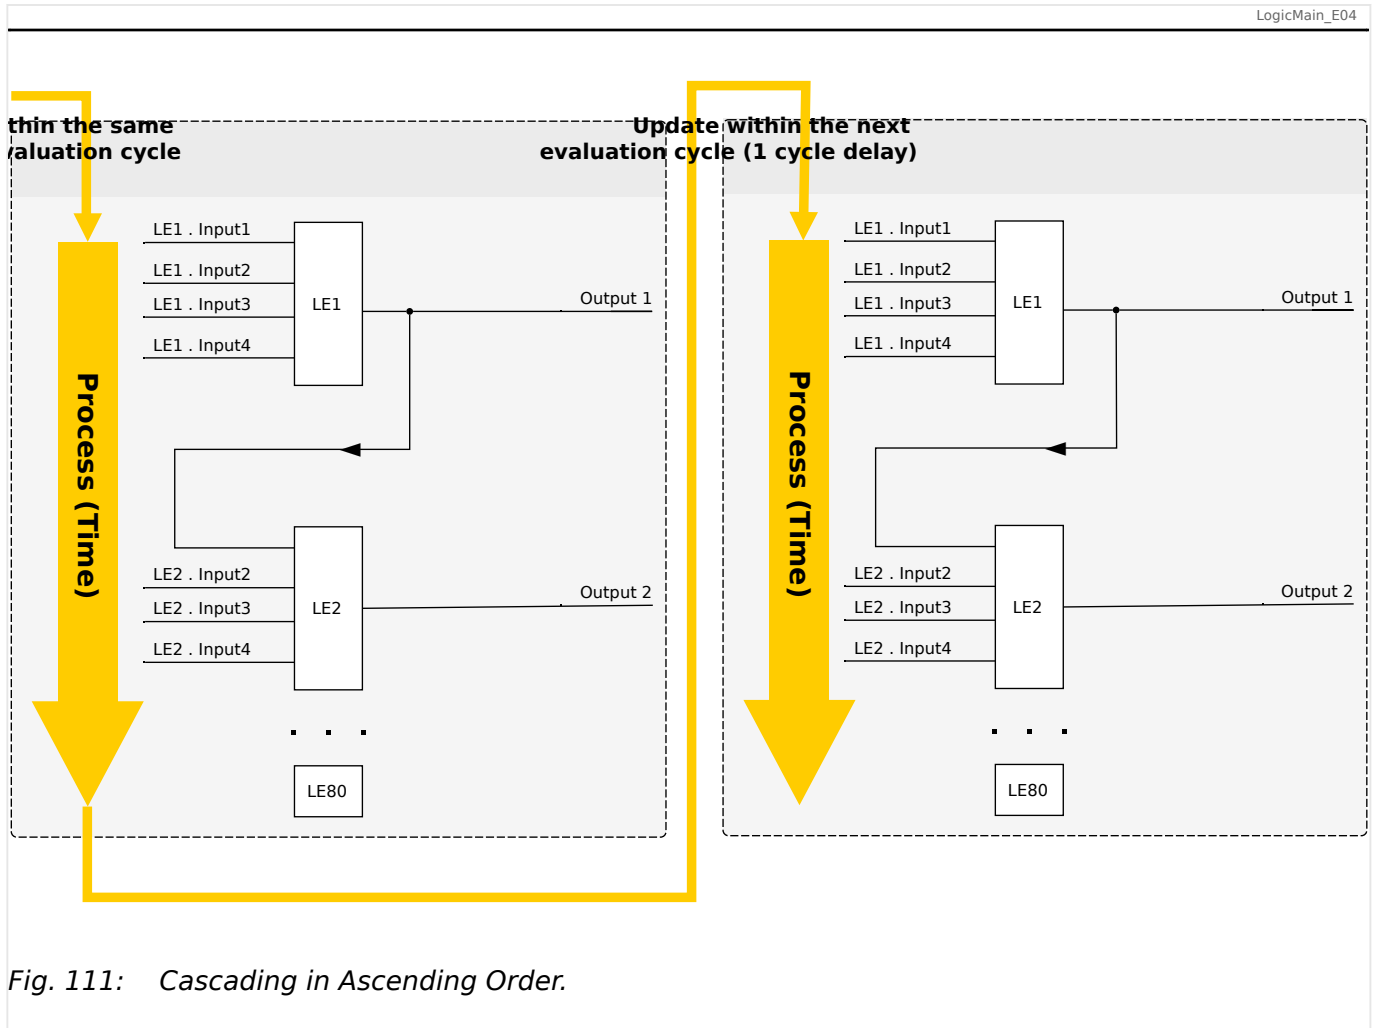
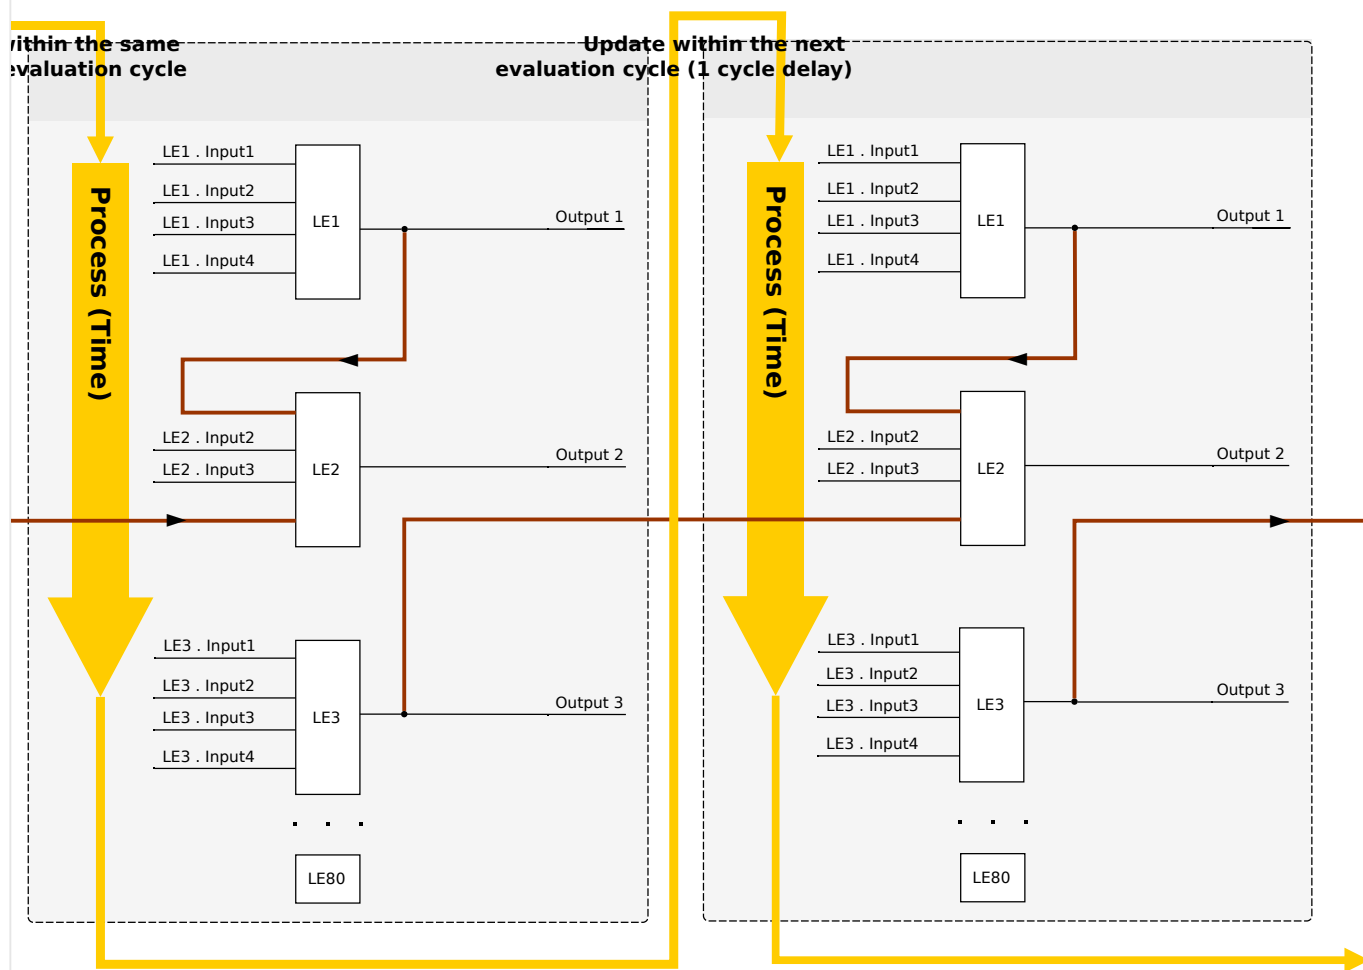

Fig. 111: Cascading in Ascending Order.
Fig. 112: Cascading in Descending Order.
- **Ascending** sequence means that some output is fed into the input of a logic equation with **higher** number. For instance, diagram ↪Fig. 111 below shows an example where the result of Logic Equation LE1 is used as an input of Logic Equation LE2.
- **Descending** sequence means that some output is fed into the input of a logic equation with **lower** number. For instance, diagram ↪Fig. 112 shows an example where the result of Logic Equation LE3 is used as an input of Logic Equation LE2.
Both ascending and descending sequences may be used and combined one with the other, with no immediate difference. However, due to the evaluation of all equations in ascending order the actual run-time values that are fed in at the input of an equation will have a different “age”, as is shown in ↪Fig. 111 and ↪Fig. 112 below.
In the example shown in Fig. 112 above, “Logic Equation 2” uses the output states of two other equations, “Logic Equation 1” and “Logic Equation 3”. The result of “Logic Equation 1” is used in ascending order and has therefore been evaluated within the same process cycle. The result of “Logic Equation 3” is used in descending order and has therefore been evaluated in the previous process cycle.